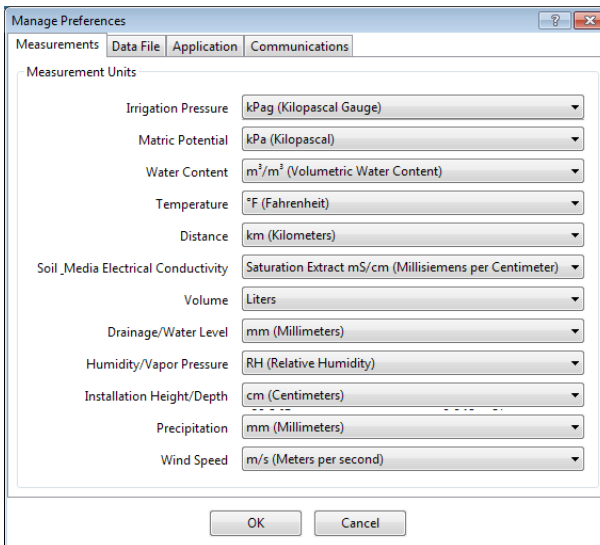

Figure 14 Measurements tab
- Measurements Tab (Figure 14):